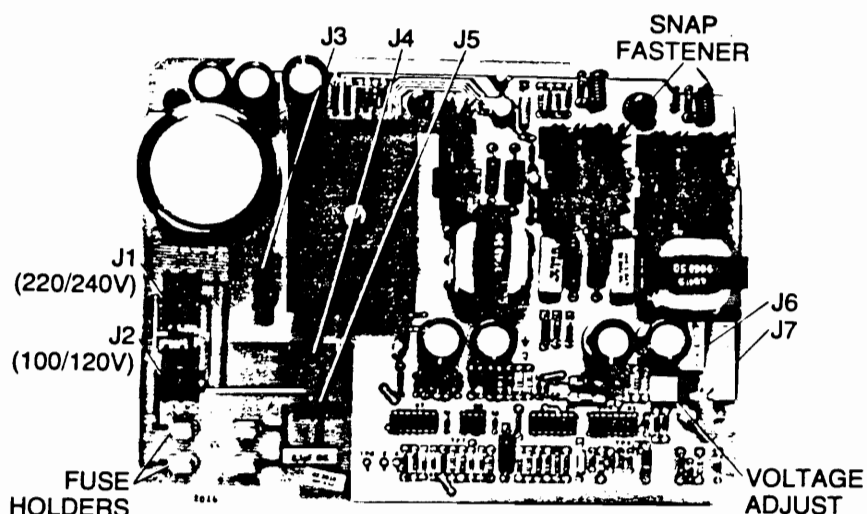

Figure 2-5. 45500A Power Supply PCA
3. Check that the fuse is inserted in the set of fuse holders which comes closest to matching the power source (figures 2-5 and 2-6). Also check that the amperage rating of the fuse is as indicated on the Power Supply PCA. For 45500A-050, the Power Supply PC must be removed to check the fusing.